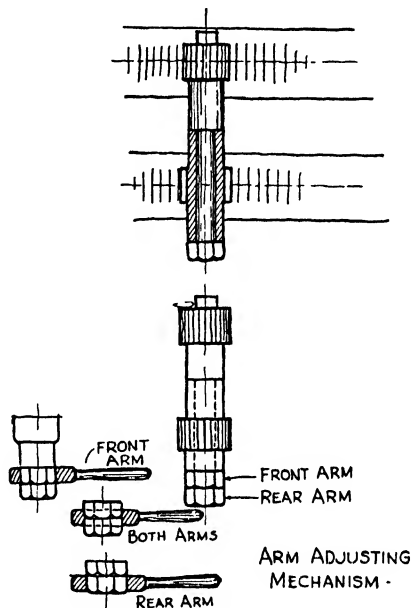
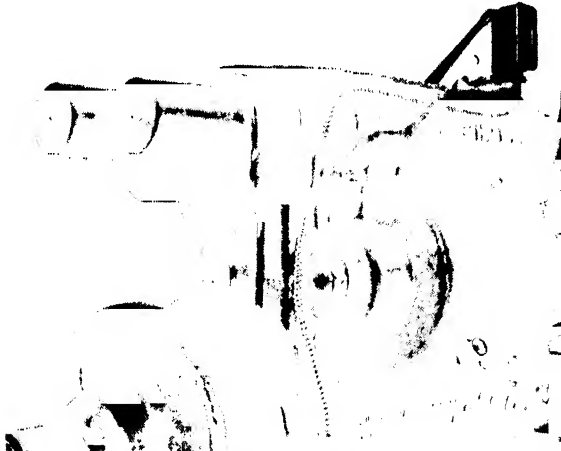

FIG. 202. IDEA SKETCH FOR IMPROVEMENT
FIG. 203. "ARM ADJUSTING MECHANISM" ON THE MILLING MACHINE
only natural that at this moment he would seize a pencil and any scrap of paper to record the new idea at once in the form of a freehand technical sketch (page 235). Such a sketch is shown in Fig. 202, of an "Arm Adjusting Mechanism" for a milling machine.* See Fig. 203 (handle in upper left portion of milling machine).
* Figures 202 to 207 are reproduced through courtesy of the Brown & Sharpe Mfg. Co.